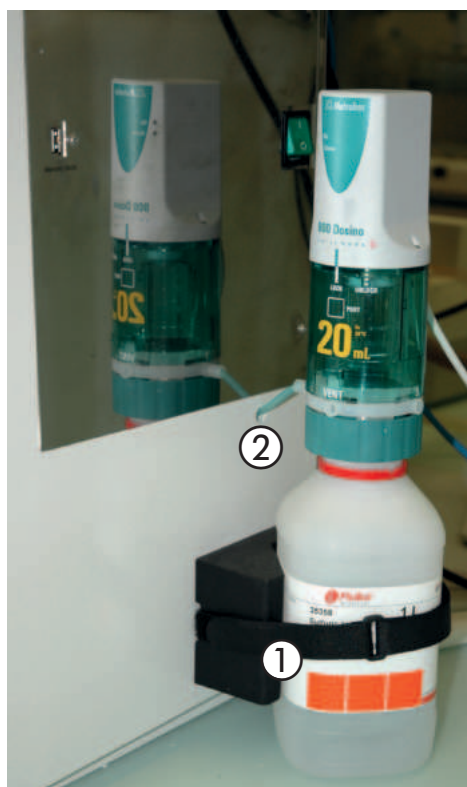

Fig. 5.9: Buret mounted on the titration solution bottle
- Mount the sensor at the tank using the provided O-ring (see ① in figure 5.9) and connect it at the rear-side of the device to the corresponding port (NaOH, H₂O, H₃BO₃, Waste Sample Tube, Waste Receiver, or Titrant). **The sensitive side of the sensor (marked with the crosshair) has to face the tank!**
Use a small screwdriver to set the sensitivity (with the small adjustment screw) of the sensor (see ② in figure 5.9).